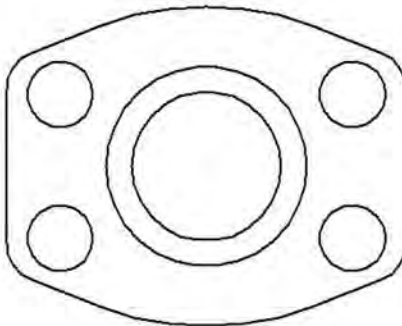

FIGURE 2
10. Install hydraulic lines to the cylinder. These are code 61 flange fittings for our cylinder with part number 319-063. See figure 2 for reference.